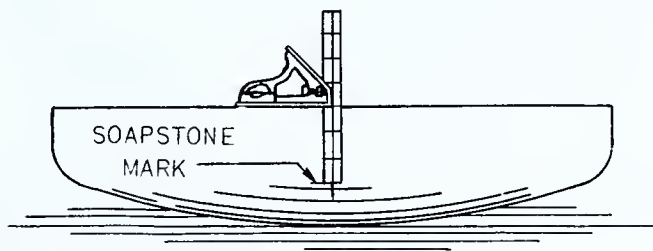

FIG. 271 — Step 10
10. Set the combination square to 3". Mark with soapstone an intersection line on the lines marked in Steps 8 and 9 as shown in Fig. 271.